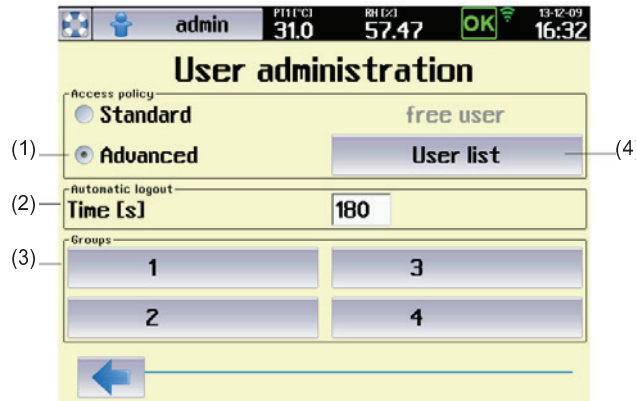
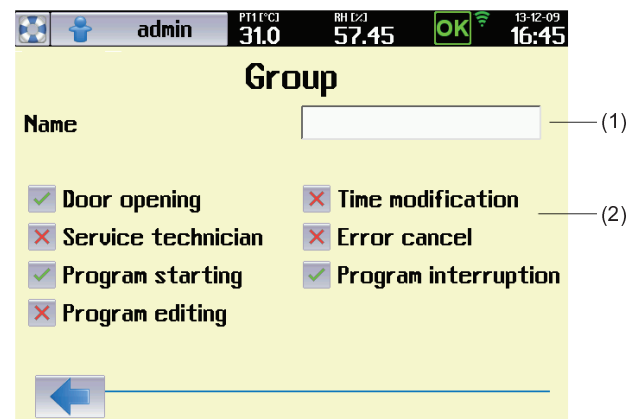

Fig. 16
Fig. 17
- The administrator may place operators in up to four groups with different user rights, see Fig. 17
Definition of group, See (3), Fig. 16.
User editing. See (4), Fig. 16.
- (1) Operator name
- (2) Operator password.
- (3) Allocating operator to group
- See Fig. 16, Fig. 17.